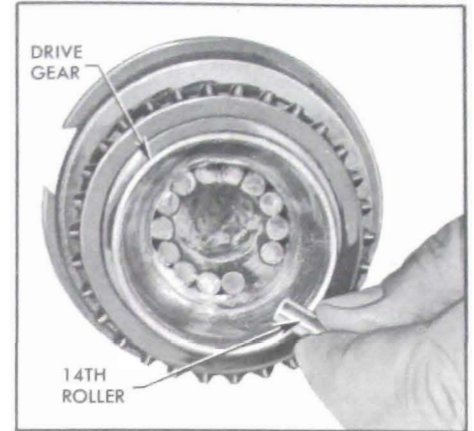

Figure 4-34—Loading Bearing Rollers in Drive Gear
10. Insert 14 bearing rollers in drive gear. Hold in place using heavy grease. See Figure 4-34.